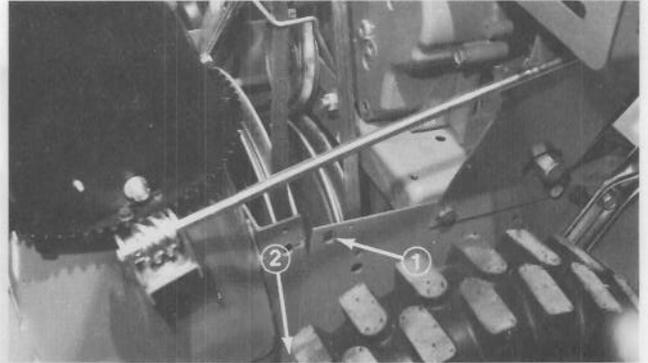

Figure 37
3. Remove two upper flange screws and loosen the two lower locknuts holding auger housing and traction unit together (Fig. 37).
5. Secure auger housing and traction unit together by lining up top holes and installing two flange screws (Fig. 37). Tighten two upper flange screws and lower locknuts (Fig. 37).